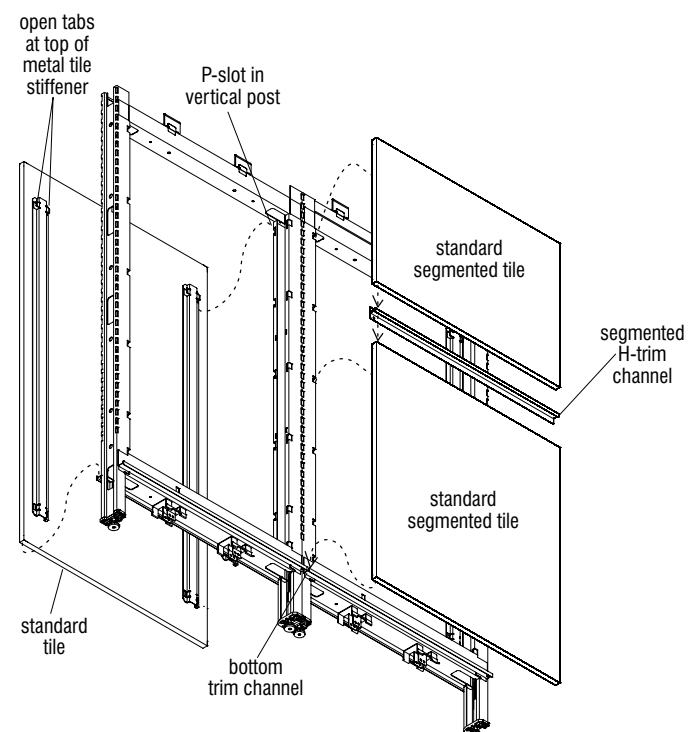

Figure 2 - Standard Tile Installation
2. Position the standard tile such that the “open tabs” at the top of the vertical tile stiffeners are at the top of the panel (Figure 2).
3. Hold the tile up, then center and nest the bottom of the tile into the bottom trim channel. Push the top of the tile against the frame and lift such that the tabs of the stiffeners enter the P-slots. Push in and gently allow tile to nest down into the bottom trim channel (Figure 2).
4. If a panel is to have standard segmented tiles, install a segmented H-shape trim channel such that the wide flange of the channel is behind the tile as illustrated. Install segmented tiles from the bottom up. The lowest segmented tile installs first, then H-trim channel, then next higher segmented tile etc. (Figure 2).